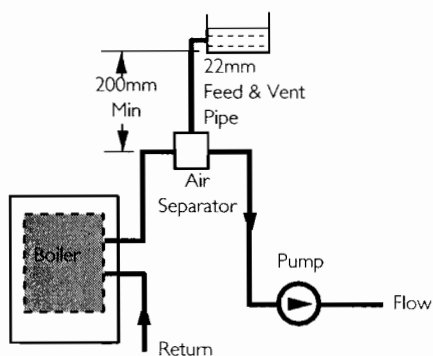

Fig. 12
**An alternative Low Head Installation (Fig. 12)**